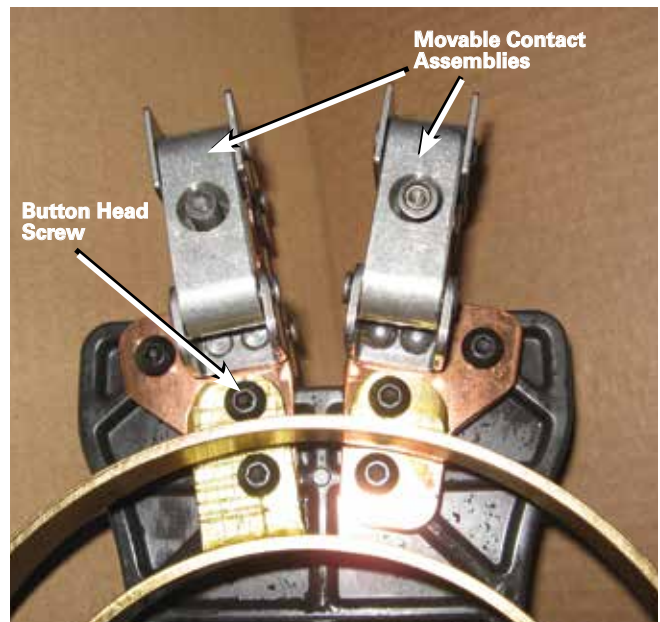

Figure 12. Movable contact removal from insulating arm and rings.
- Remove the three button head screws, nuts and washers that secure each contact to the movable contact panel using a 5/32" hex wrench and a 7/16" deep well socket wrench. Refer to Figures 12 and 13.